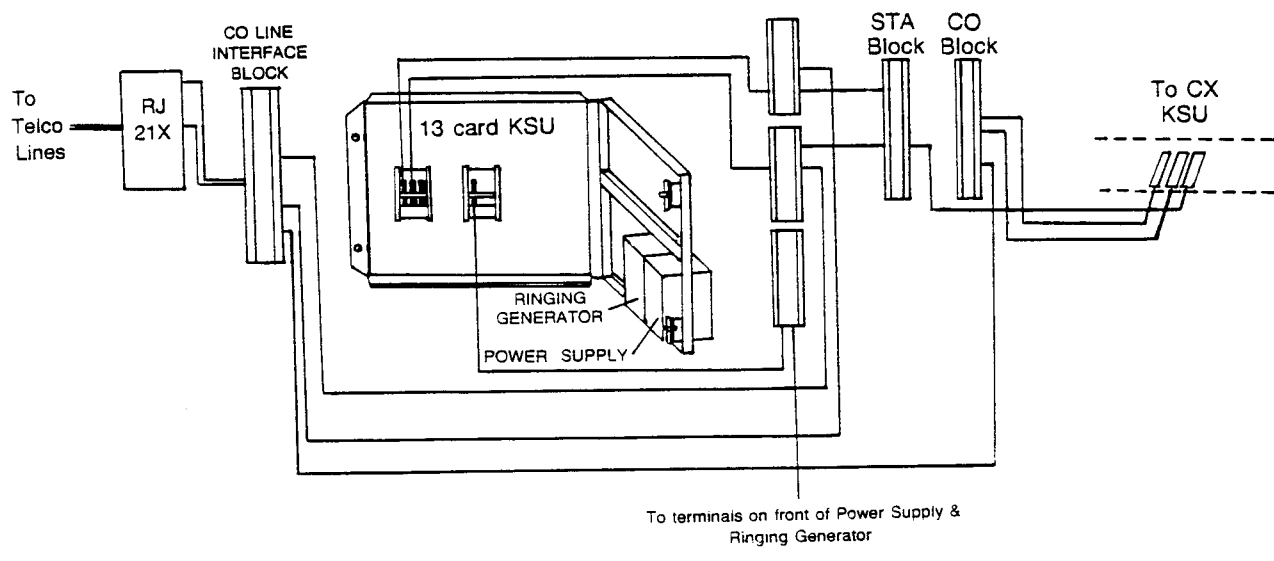

Figure 5a OPX INSTALLATION WITH 6 CARD KSU
4.01 The following paragraphs provide instructions for connecting the OPX to the TCX equipment. It is recommended that the 6 Card and 13 Card KSU be mounted on a separate mounting board to the right of the TCX equipment and near a separate 115VAC, 15 amp outlet (Figures 5a and b).